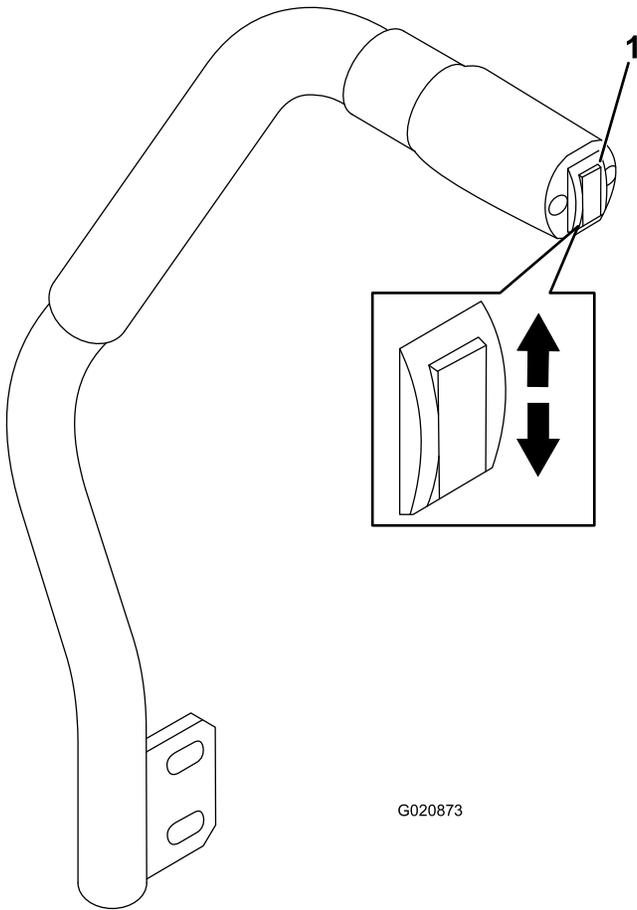

Figure 24
The deck-lift switch raises and lowers the mower deck (Figure 24). The engine must be running for you to use this lever.
- To lower the mower deck, push the deck-lift switch down (Figure 24).
- To raise the mower deck, push the deck-lift switch up (Figure 24).